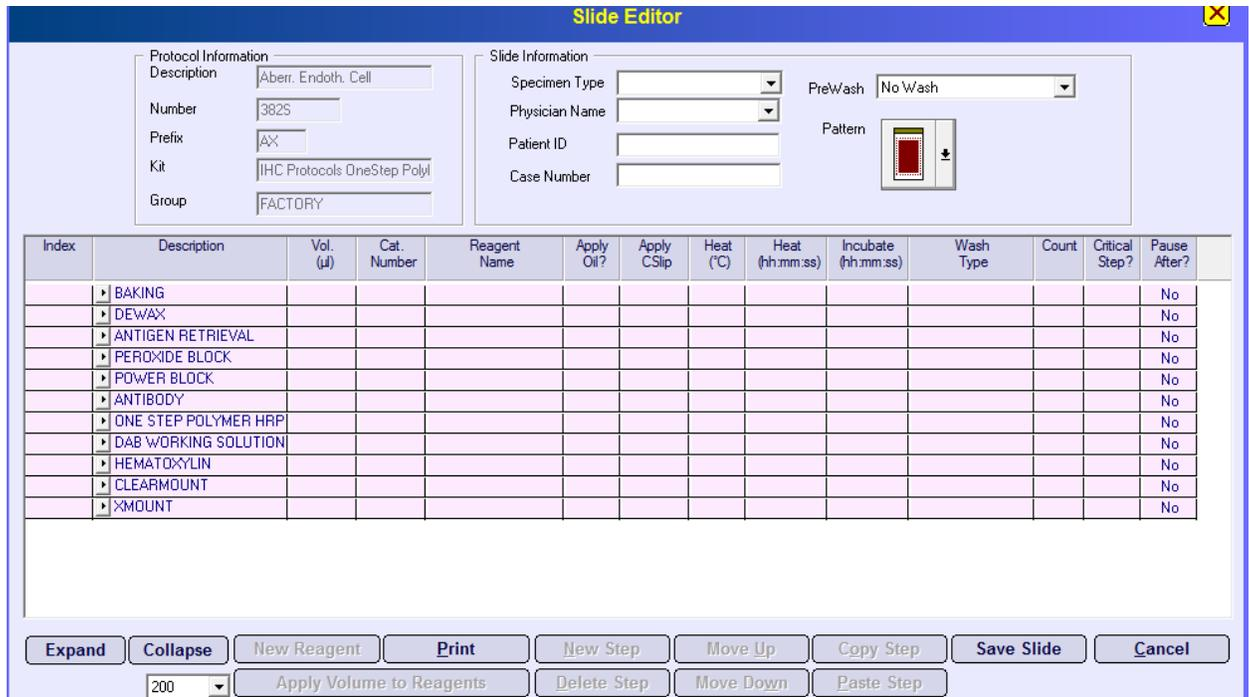

Figure 29: <Slide Editor> Window
- iii. Select 'Edit Slide' from the drop down menu to open the <Slide Editor> window (Figure 29).